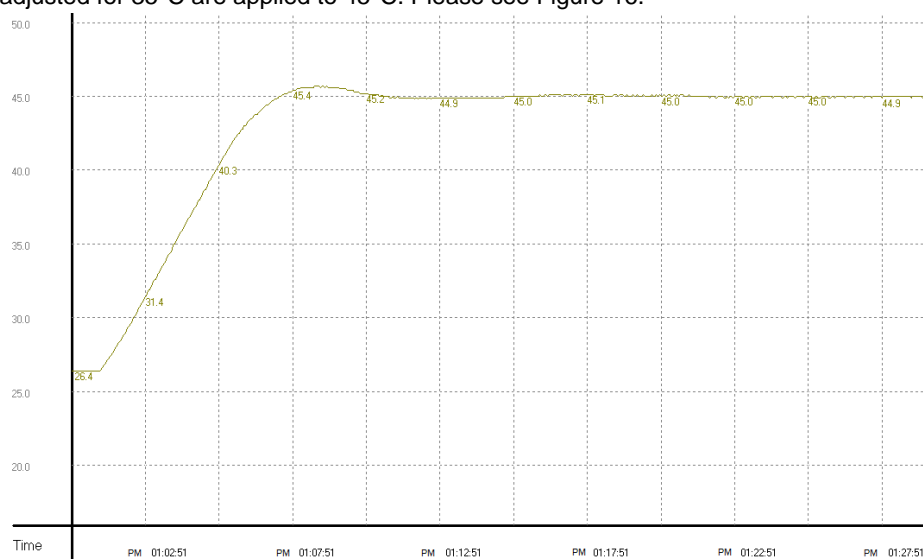

Figure 16
- ◆ Change the target temperature in CR#10 in the module to 45°C, use the PID temperature control parameters (K_P , K_I , and K_D) calculated, and enable M0 and M1 again. The experimental result is shown in Figure 16.
The parameters adjusted for 35°C are applied to 45°C. Please see Figure 16.